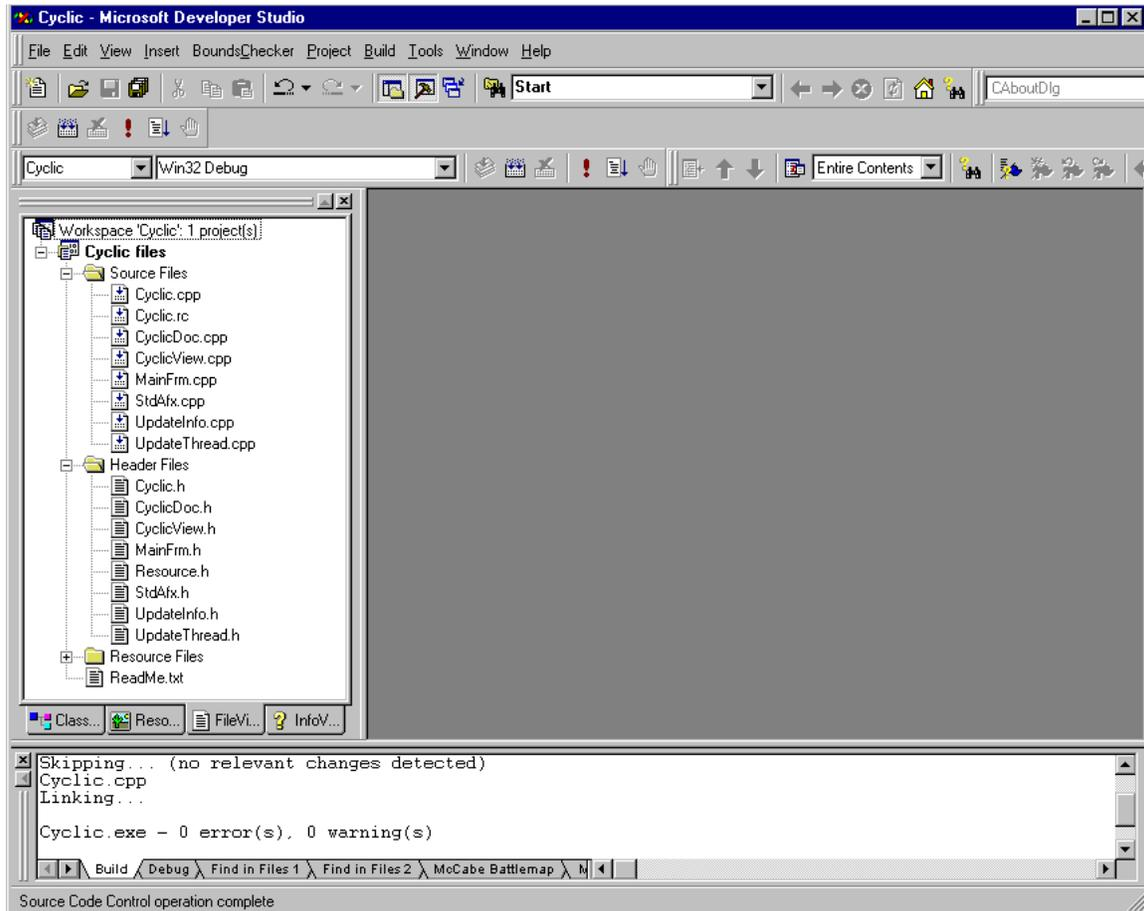

Figure 41 Cyclic project showing the project files list.
2. In Visual C++ click on the **FileView** tab to see the list of Files that are in the project. You should now see the four files you just added as shown in Figure 41.